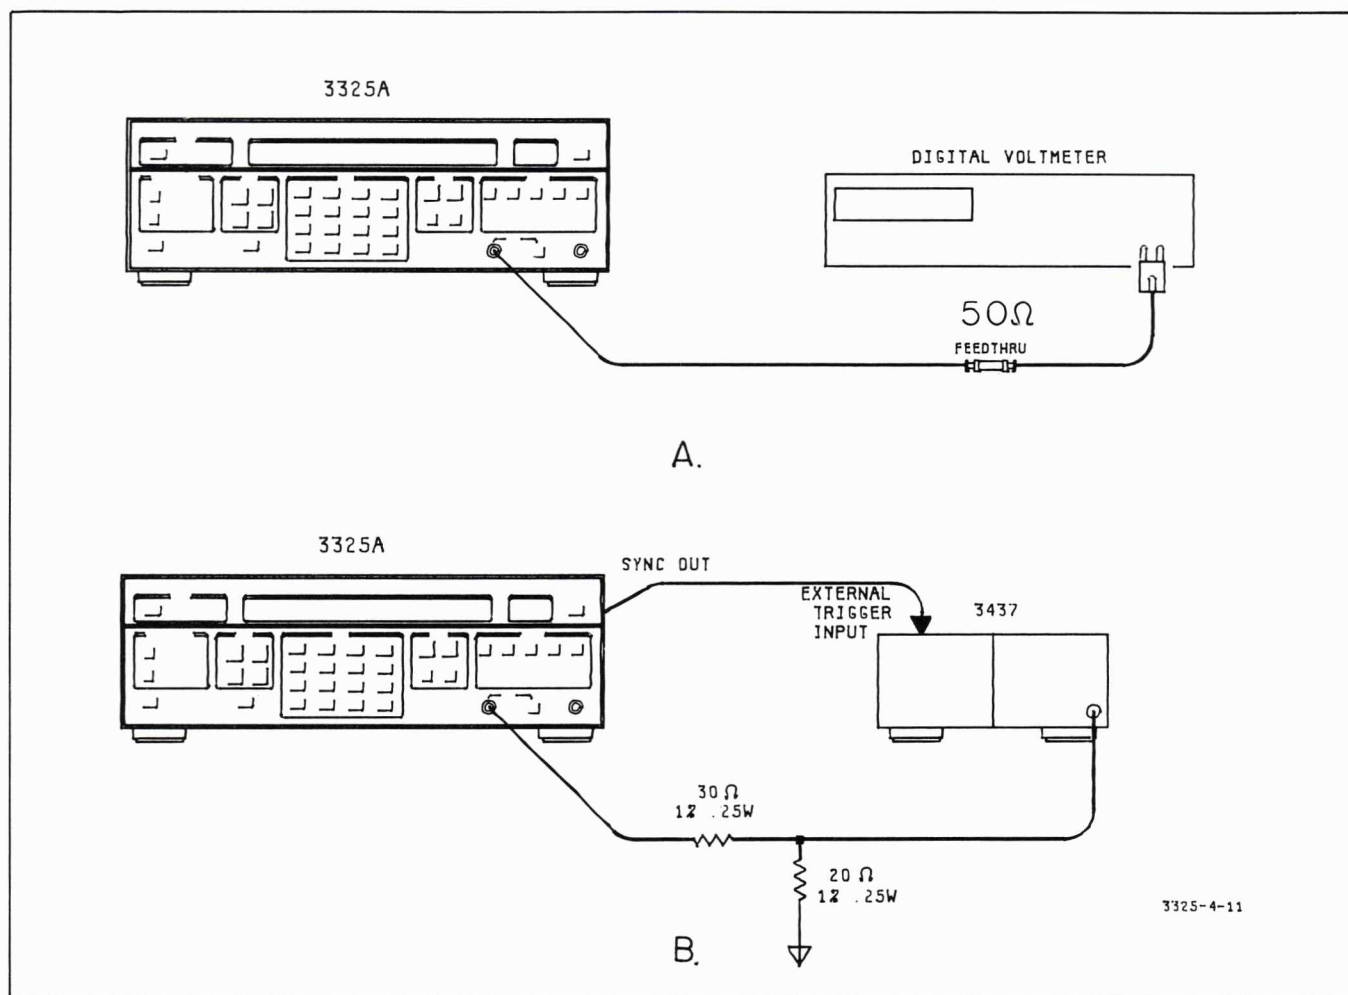

Figure 4-10. Triangle and Ramp Linearity Test.
a. Connect the equipment as shown in Figure 4-10 A. Set the digital voltmeter to measure dc voltage.